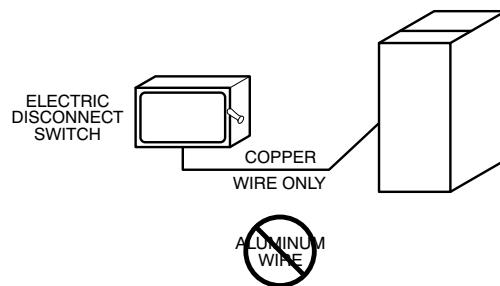

Fig. 34 – Field-Supplied External Electrical Box on Furnace Casing
1. Drill two (2) 1/8-in. (3 mm) pilot holes through the dimples in the furnace casing near the 7/8-in. (22 mm) knockout or plug on the side of the casing. Do not remove the knockout or plug in the side of the casing.
3. Install two (2) screws through the outside of the casing to secure the J-Box bracket to the furnace casing.
9. Connect field power and neutral leads to furnace power leads inside the external electrical box as shown in Fig. 34.